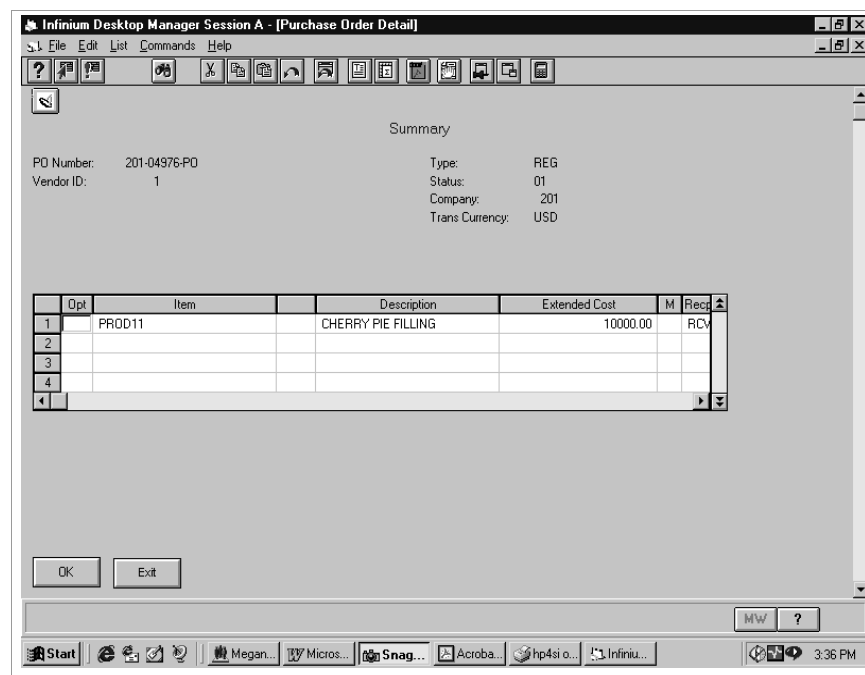
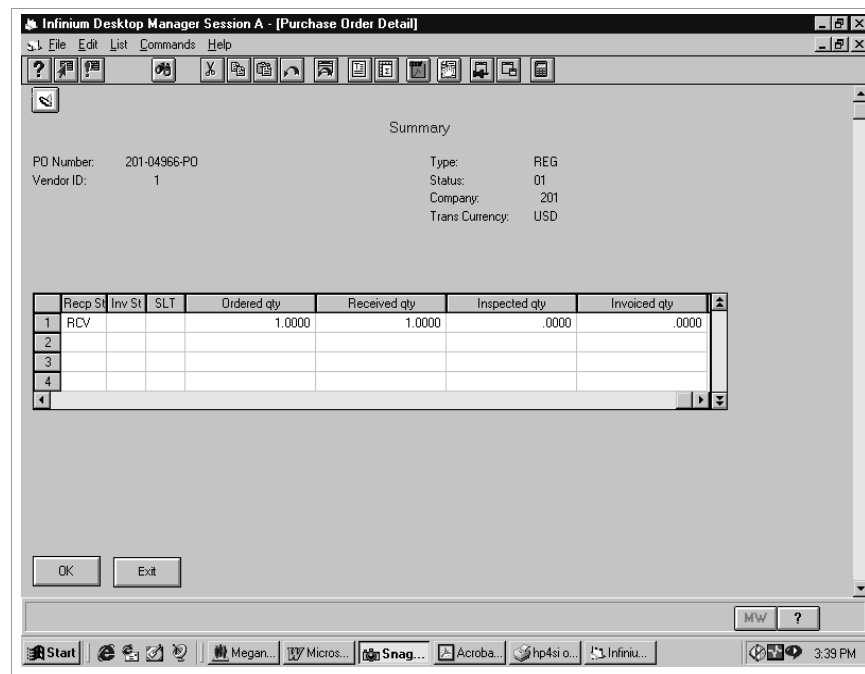
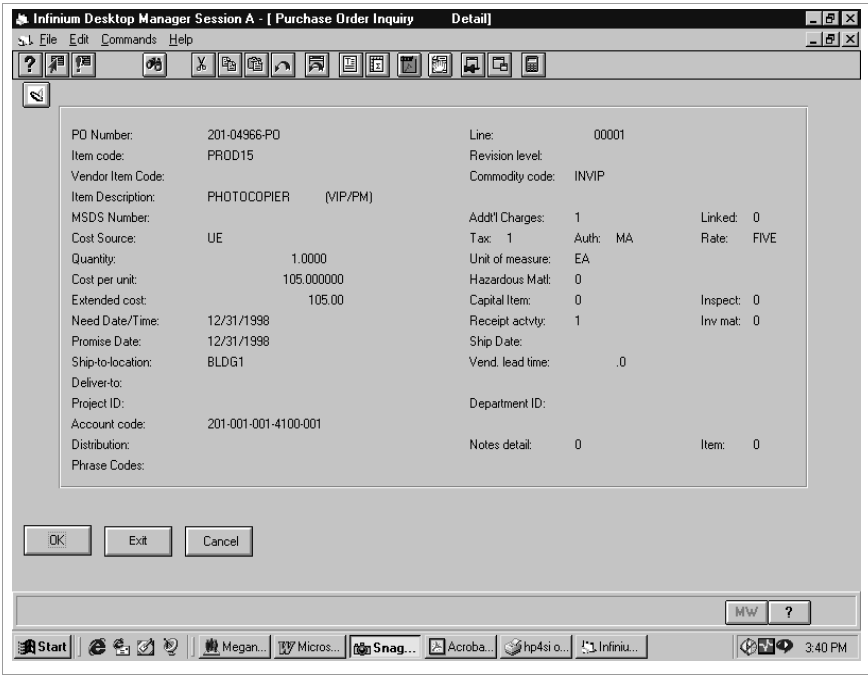

Figure 5-10: Purchase Order Detail Summary screen
Figure 5-11: Purchase Order Detail Summary screen Alternate View
Figure 5-12: Purchase Order Inquiry Detail screen
- 2 Select **Work with** or type **5** and press Enter. The system displays the screen shown in Figure 5-10.
- 5 You can press F11 at the Purchase Order Detail Summary screen shown in Figure 5-10 to display more information for the selected detail line as shown in Figure 5-11. This is an optional procedure.
- Select an item at the Purchase Order Detail Summary screen shown in Figure 5-10 to display detailed information about that item. Select **Display** or type **8** and press Enter. The system displays the screen shown in Figure 5-12.
- 8 When done, exit or cancel to return to the Purchase Order Detail Summary screen shown in Figure 5-10.
- 1 To select at the multi-ship level, select a detail line item at the Purchase Order Detail Summary screen shown in Figure 5-10. Select **Work with** or type **5** and press Enter. This option is valid only for line items that display an **M** in the *M* (multi-ship) column.
- 3 Press Enter. The system saves your selections and returns you to the Purchase Order Detail Summary screen shown in Figure 5-10. The system updates the *SLT* column with **DTL** when you select a multi-ship item at the Multi-Ship Selection screen.